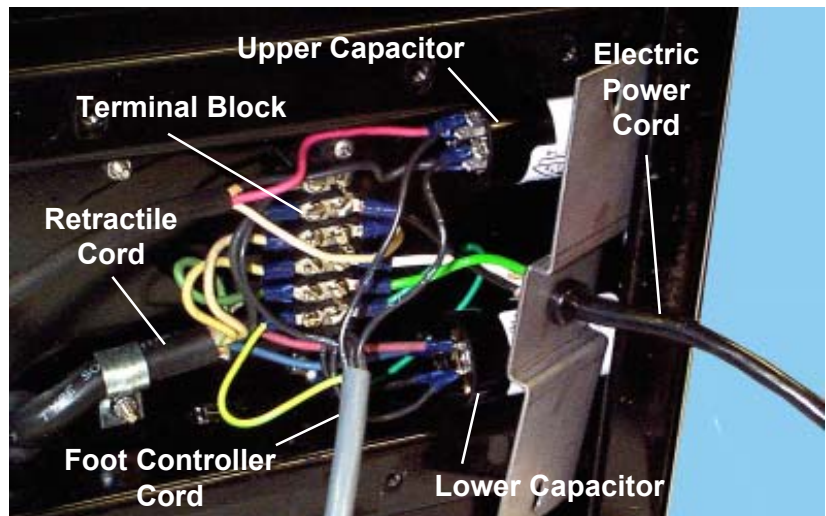

Figure 13. Foot Controller Wire Terminations
5. The foot controller cord contains one green/yellow wire, and six gray wires, numbered **1, 2, 3, 4, 5** and **6**. (Figures 13 and 14). Note down where all seven wires terminate so that you can replace the wires from the new foot controller correctly.